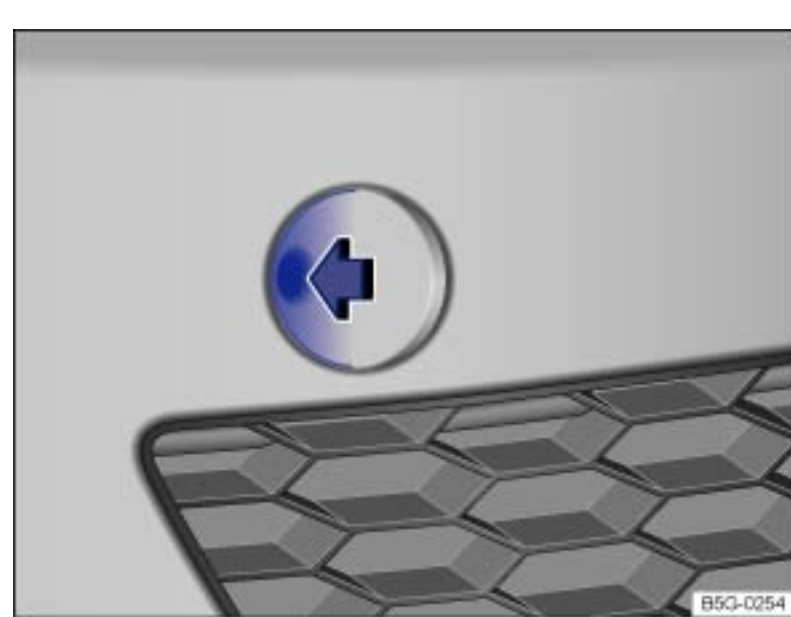

Fig. 226 In the right front bumper: Removing the cover.
- Push on the left side of the cover → Fig. 226 (arrow) so that it pops out.